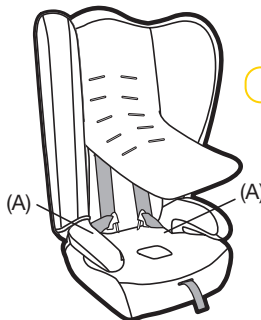

Figure 3
Step 2: Disengage shoulder straps from "G" connecting plate as shown on page 12 (refer to section "Shoulder Slot Height" - Step 1 & 2). Remove and store Shoulder Pads & Buckle Pad. Lift the front flap of the seat cover (see Figure 3).
Place the two buckle tongues in the recess in the plastic base at point (A) in Figure 3.